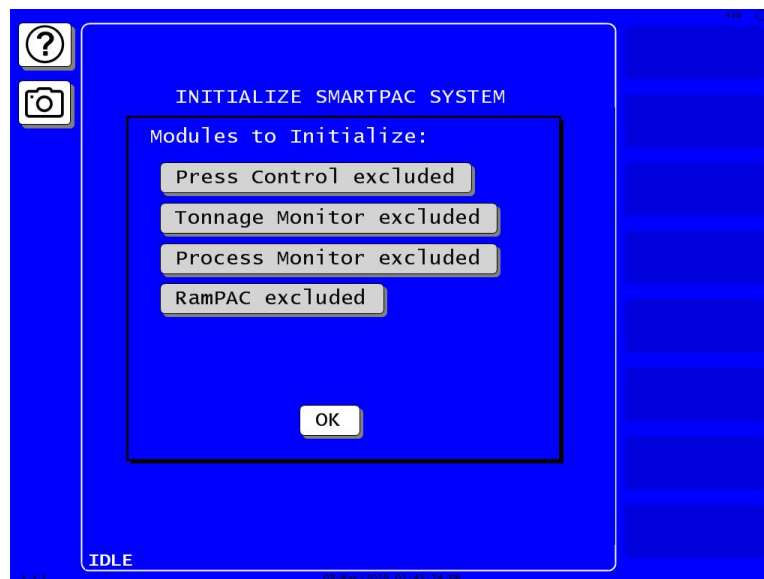

Figure 2-10. Modules to Initialize, Select Module
3. Press Reset Initialization Data. The Modules to Initialize box appears (Figure 2-10).